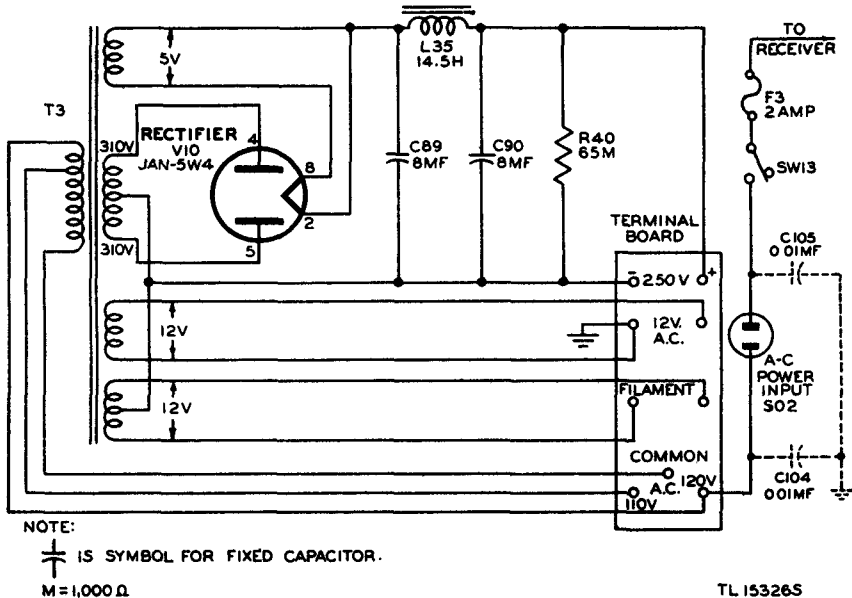

Figure 32. Rectifier RA-20, schematic diagram.
b. Power transformer T3 has a single primary winding and four secondary windings. (See fig. 32.) The primary winding is tapped to provide for an input of 110 or 120 volts. A Tube JAN-5W4 is used in a full-wave rectifier circuit and the resulting rectified voltage is filtered by choke L35 and capacitors C89 and C90 and a resistor R40.
d. To prevent interference between receivers operating from a common a-c supply, capacitors C104 and C105 have been added to Rectifier RA-20 in later procurements of Radio Receivers BC-342-N and BC-344-D. These capacitors, shown dotted in figure 32, prevent the oscillator voltage from appearing on the a-c supply lines.